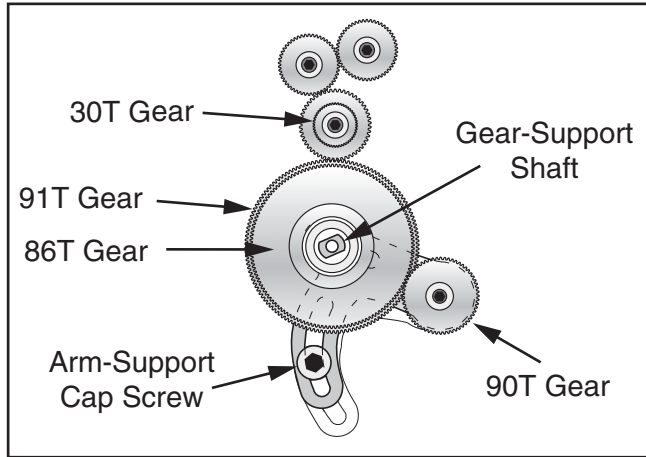

Figure 73. Inch threading gear configuration.
10. Rotate the 91T gear up against the 30T gear until they mesh with 0.002" to 0.004" backlash and re-tighten arm support cap screw (see **Figure 73**).